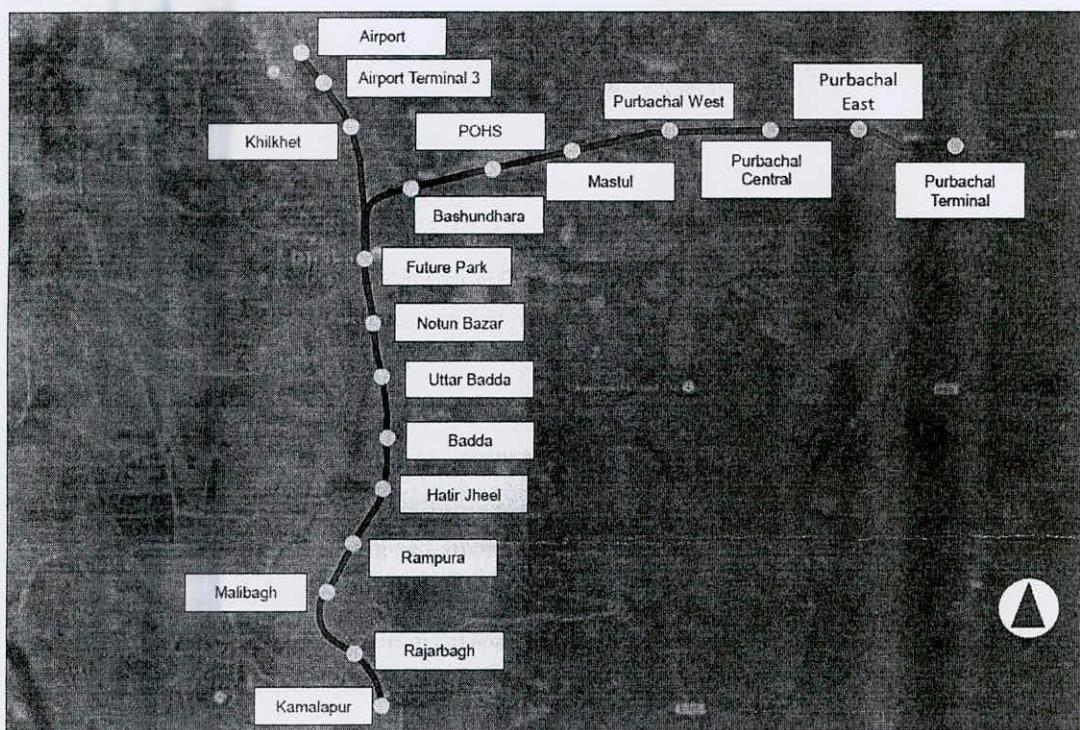

Figure 1: Map showing the Route of the MRT line 1.
1. The Dhaka Mass Rapid Transit (MRT) line 1 project is a government-led initiative with financial support from the Japan International Cooperation Agency (JICA). Its goal is to reduce traffic congestion and air pollution in Dhaka, Bangladesh by constructing a 31.2 km MRT line with 19 stations and one depot in the Pitolganj, Rupgonj area. **Figure 1** shows the proposed route of the MRT Line 1. Suppose an initial screening assessment indicates that the project will require the acquisition of 39 ha of land, including 25 ha for the Depot and 14 ha for the Construction Yard. The majority of the project area is rural, with the land mostly used for agriculture, vita/homestead, and khal (water body). Land acquisition for this project will displace households and commercial premises, both titled and non-titled, including landowners, squatters, sharecroppers, leaseholders, and non-titled land users. The project may directly impact 1,200 households comprising a total population of about 5,000. Additionally, the project will impact more than 20 Common Property Resources (CPR), including mosques, madrasas, schools/colleges, graveyards, and offices.
1. (a) A typical bay of a composite floor system consisting of composite deck slab resting on steel beam is illustrated in Fig. 1. Calculate the service load flexural stresses in concrete and steel of the secondary composite beam SB1 (W21x68) for unshored construction. In addition to the self-weight of the slab and beam consider 60 psf of partition wall load, 30 psf for floor finish, 20 psf for construction live load and 80 psf for service live load. Consider the beam to be a partially composite beam with 80% composite action between steel and concrete. Given: $f'_c=4 \text{ ksi}$ and $E_c=3600 \text{ ksi}$; $F_y=50 \text{ ksi}$ and $E_s=29000 \text{ ksi}$